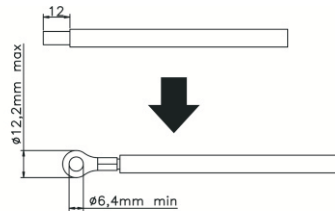

Figure 7.1
Step 2: Use two battery cables. Remove insulation sleeve 12 mm and insert conductor into cable ring terminal. Refer to Figure 7.1.